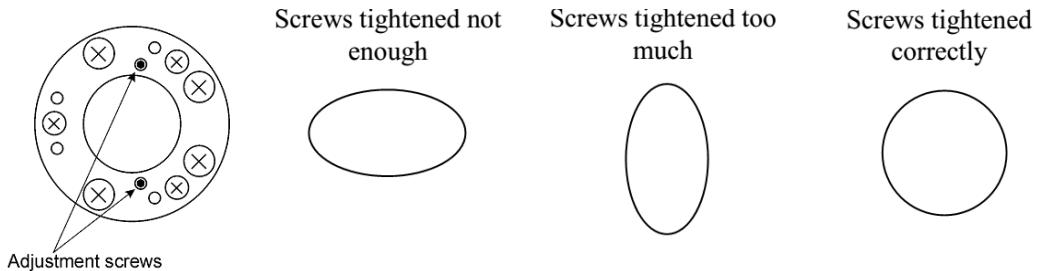

Figure 23 Compensation of thermo-induced astigmatism
3. Using 1.5 mm Allen hex key, adjust both of two screws on the rear mirror holder (Figure 23) in order to get spatial distribution as close as possible to circular.